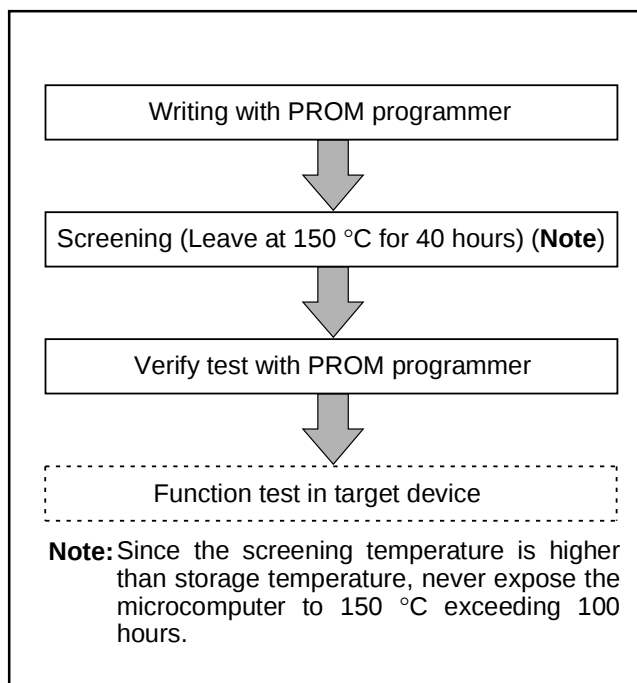

Fig. 56 Flow of writing and test of the product shipped in blank
Table 19 shows the product of built-in PROM version. Figure 56 shows the pin configurations of built-in PROM versions.
(2) Notes on handling
① For the One Time PROM version shipped in blank, Renesas corp. does not perform PROM writing test and screening in the assembly process and following processes. In order to improve reliability after writing, performing writing and test according to the flow shown in Figure 56 before using is recommended (Products shipped in blank: PROM contents is not written in factory when shipped).
(3) Difference between Mask ROM version and One Time PROM version